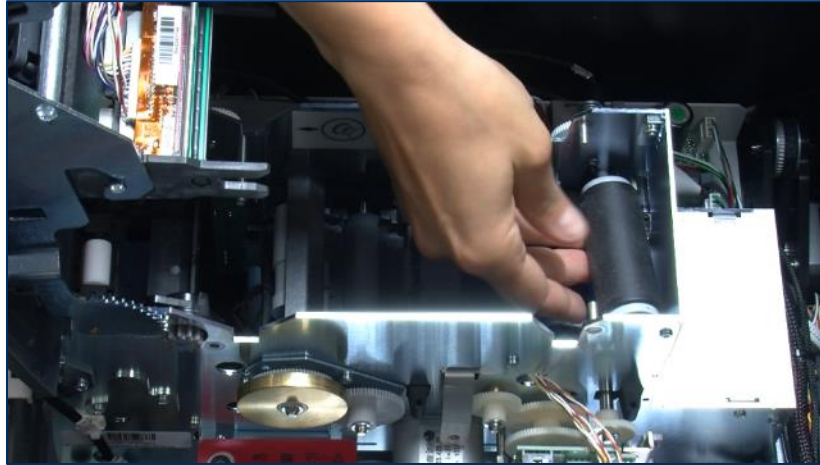

Figure 3-8 - Removing the Card Cleaning Roller
- 3) Remove the cleaning roller (see **Figure 3-8**).